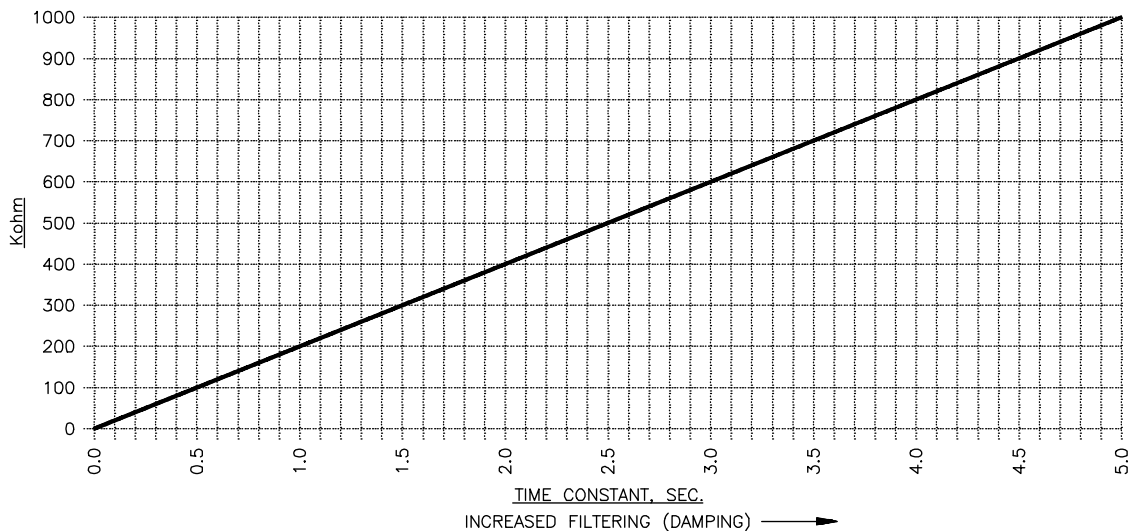

Figure 5.1
2. The factory supplied value for this resistor is 90.9K ohm. To slow the unit's response time, increase the resistance value of R9. See Figure 5.1 for desired filtering (time constant) versus resistance value of R9.